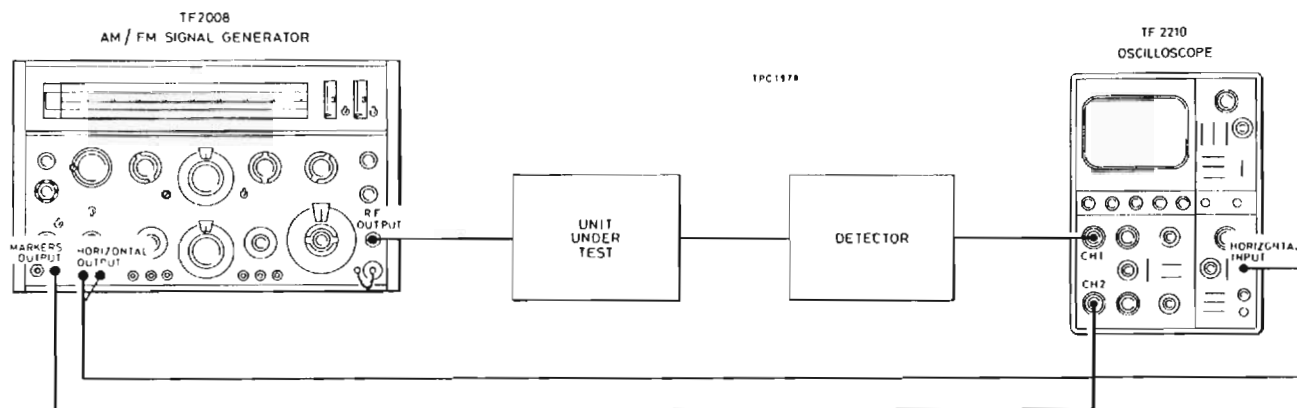

Fig. 2.3 Arrangement for wide sweep
(1) Connect the equipment as in Fig. 2.3. Set the MODE switch to WIDE SWEEP and select the frequency range of interest with the CARRIER RANGE switch. NOTE. There will be no indication on the CARRIER LEVEL ERROR meter.
(2) Set the oscilloscope so that the horizontal amplifier is available without the time base running; if TF 2210 is in use, set trigger source switches to external, select x10 mag. and advance the intensity control. If a single trace oscilloscope has to be used, combine the output from the detector and the markers at a T-connector with the output to the oscilloscope vertical input.